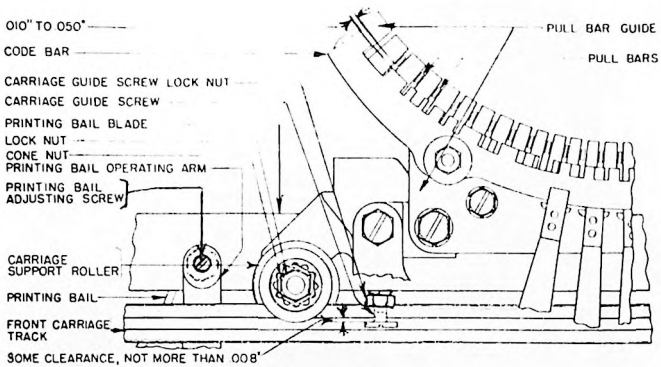

Figure 2
2.13.1 With the platen in the LETTERS position (down), print the letter W on the platen. Then, with the platen in the FIGURES position (up), the Figure 2 should be in direct alignment with the letter W when the Figure 2 is printed directly on the platen. ADJUST by means of the SHIFT stop screw.